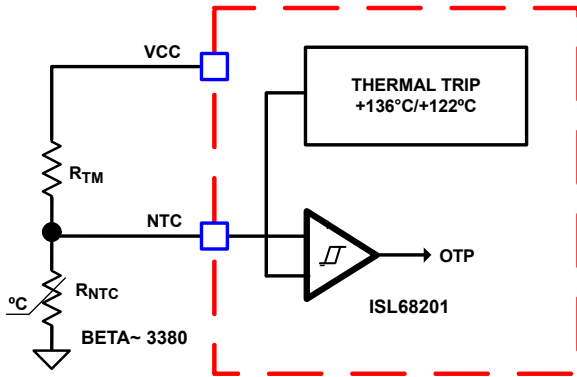
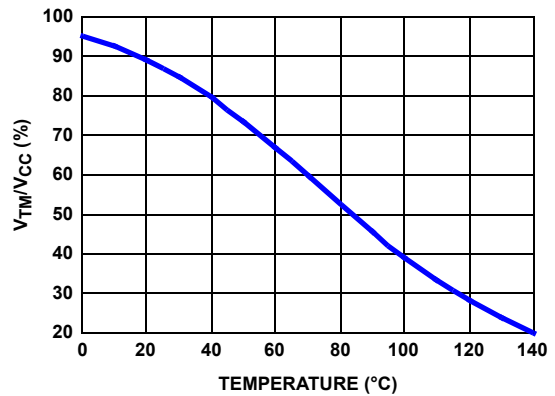

FIGURE 16. BLOCK DIAGRAM OF THERMAL MONITORING AND PROTECTION
FIGURE 18. THE RATIO OF TM VOLTAGE TO NTC TEMPERATURE WITH RECOMMENDED PART
The thermal monitoring function block diagram is shown in Figure 16 on page 18. One NTC resistor should be placed close to the respective power stage of the voltage regulator VR to sense the operational temperature, and pull-up resistors are needed to form the voltage dividers for the NTC pin. As the temperature of the power stage increases, the resistance of the NTC reduces, resulting in the reduced voltage at the NTC pin. Figure 18 on page 18 shows the TM voltage over the temperature for a typical design with a recommended 10kΩ NTC (P/N: NCP15XH103J03RC from Murata, β = 3380) and 1.54kΩ resistor RTM. It is recommended to use those resistors for accurate temperature compensation because the internal thermal digital code is developed based on these two components. If a different value is used, the temperature coefficient must be close to 3380 and RTM must be scaled accordingly. For instance, if NTC = 20kΩ (β = 3380), then RTM should be 20kΩ/10kΩ\*1.54kΩ = 3.08kΩ.
Based on the VCC voltage, the ISL68201 converts the NTC pin voltage to a digital signal for temperature compensation. With the nonlinear A/D converter of the ISL68201, the NTC digital signal is linearly proportional to the NTC temperature. For accurate temperature compensation, the ratio of the NTC voltage to the NTC temperature of the practical design should be similar to that in Figure 18.
1. Properly choose the voltage divider for the NTC pin to match the NTC voltage vs temperature curve with the recommended curve in Figure 18 on page 18.
As shown in Figure 16 on page 18, there is a comparator with hysteresis to compare the NTC pin voltage to the threshold set. When the NTC pin voltage is lower than 22.31% of the VCC voltage (typically +136°C), it triggers Over-Temperature Protection (OTP) and shuts down the ISL68201. When the NTC pin voltage is above 27.79% of the VCC voltage (typically +122.4°C), the ISL68201 resumes normal operation. When an OTP fault is declared, the controller forces the LGATE and UGATE gate-driver outputs low.